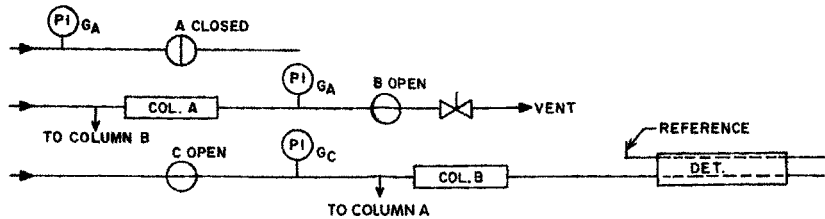

FIG. 1 Pressure Backflush
5.1 *Chromatograph*—Any chromatographic instrument that has a backflush system and thermal conductivity detector, and that can be operated at the conditions given in Table 1, can be employed. Two backflush systems are shown. Fig. 1 is a pressure system and Fig. 2 is a switching valve system. Either one can be used.